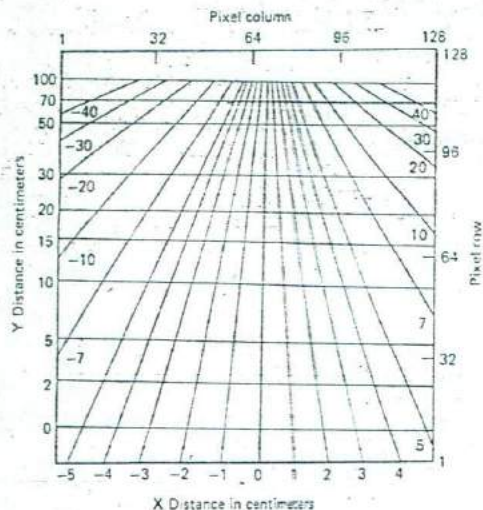
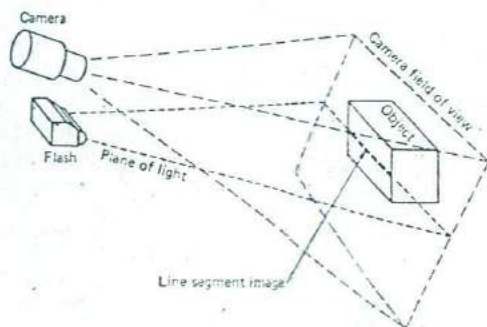
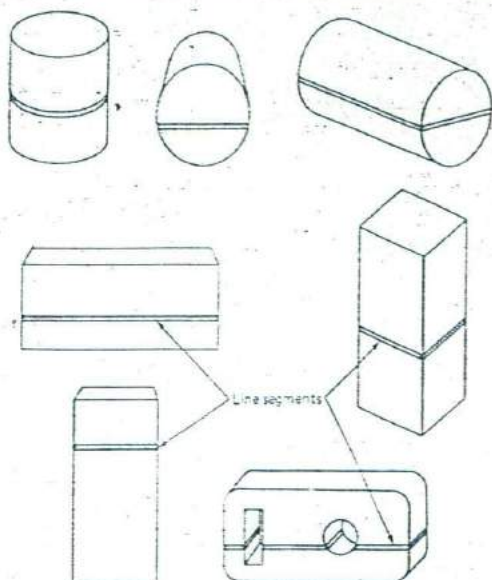

Fig. 15-39 Distance calibration chart.
Fig. 15-40 Light plane forms segment image.
Fig. 15-41 Line segment images.
The U.S. National Bureau of Standards (NBS) has developed a robot vision system that uses triangulation to compute the distance to the target. This system is based on a 128 by 128 pixel image from a solid-state video camera and a stroboscopic source that emits a plane of light. The calibration chart for the NBS vision system is shown in Fig. 15-39. It is possible to compute the distance from the robot to each point in the image. When an object is in front of the robot, a line segment image is formed by the plane of light as shown in Fig. 15-40. The shape of the segment image indicates the orientation of the part. For example, look at the sample line segment images shown in Fig. 15-41. A cylinder can produce an image that appears as a curved segment, a straight line segment, or an angle segment, depending on the orientation of the cylinder. The rectangular solid can
24. Refer to Fig. 15-41. The segment images change in relation to part distance and part _____.